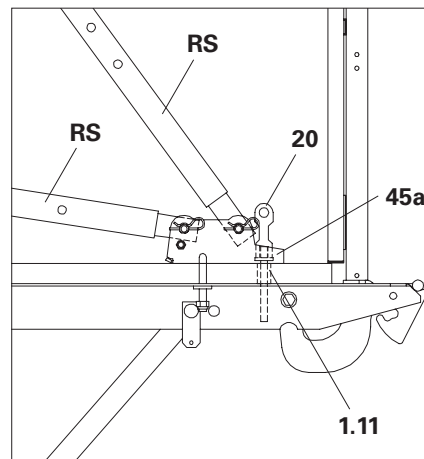

Fig. B2.03a
1. Bolt Base Plate-2 for RS 210 – 1400 (45 a) into the rear multi-purpose connector (1:11) with Push-Pull Prop Bolt FB (20).
2. Secure Push-Pull Prop RS and Kicker RS with bolts and cotter pins. (Fig. B2.03a)